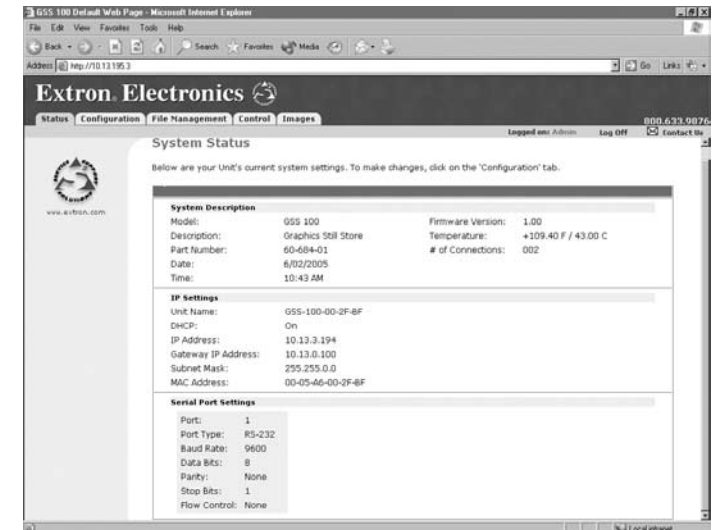

Figure 5-3 — System Status page
- c. If neither of the above conditions is true, the GSS outputs the factory-installed default startup page, "nortxe_index.html" (figure 5-3), also known as the System Status page.
The System Status page (figure 5-3) provides an overall view of the status of the GSS, including various IP addresses, and the status of the RS-232 port. The System Status page is the default page that the GSS downloads when you connect to the GSS. Access the System Status page from other GSS HTML web pages by clicking the Status tab.